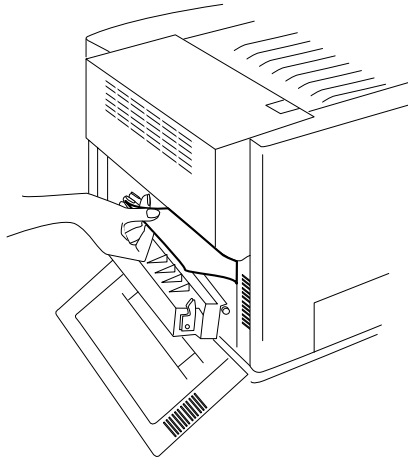

Fig. 9.7 Remove the Jammed Media
- c. Remove the media from the transfer unit end of the printer (fig. 9.7).